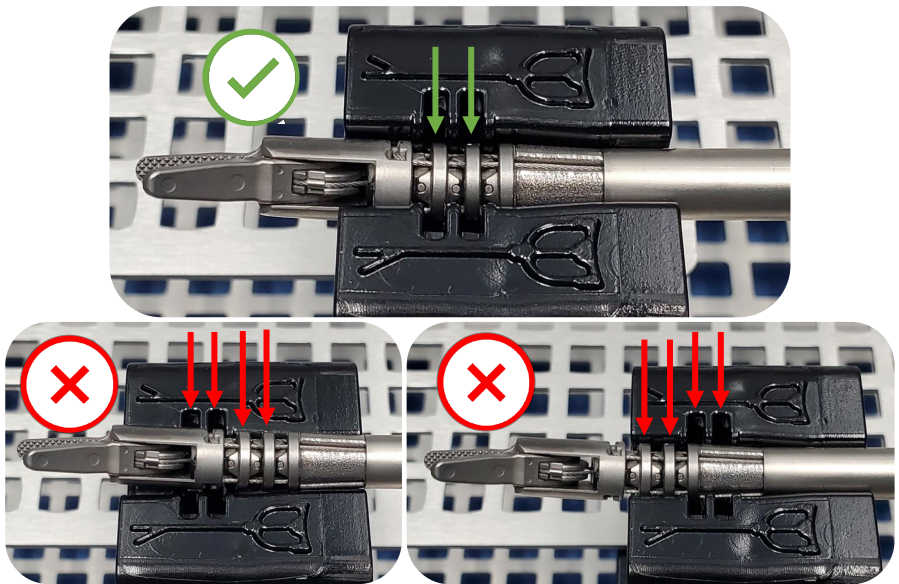

FIGURE 21: Shaft placement in AXIUS™ Instrument Tray. Correct orientation (TOP) shows the jaws open and alignment of the gimbals with the two slots.
- Gimbal guides (FIGURE 17) are aligned in slots (FIGURE 21).
FIGURE 20: Black piece that holds the gimbals can slide along the slot in AXIUS™ Instrument Tray to accommodate different shaft lengths. Slide to position device as shown in FIGURE 21.